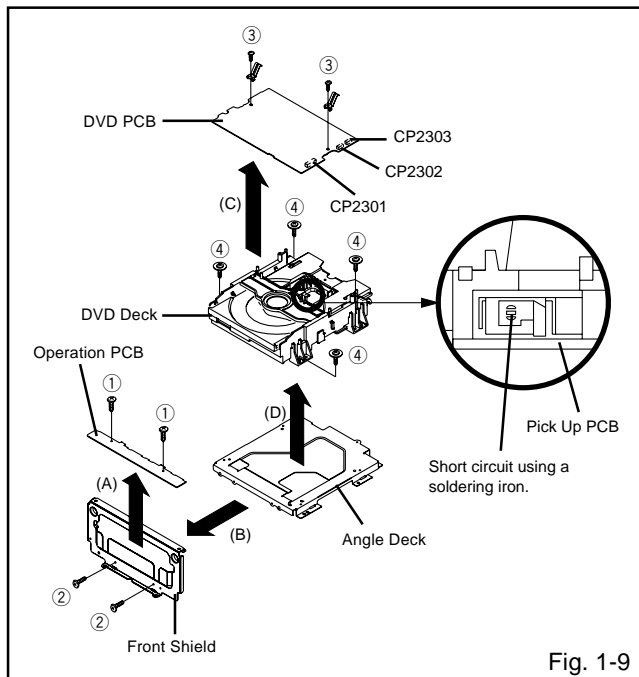

Fig. 1-9
## 1-9: OPERATION PCB/DVD PCB/DVD DECK (Refer to Fig. 1-9)
1. Short circuit the position shown in **Fig. 1-9** using a soldering iron. If you remove the DVD Deck with no soldering, the Laser may be damaged.
2. Remove the 2 screws ①.
3. Remove the Operation PCB in the direction of arrow (A).
4. Remove the 2 screws ②.
5. Remove the Front Shield in the direction of arrow (B).
7. Remove the 2 screws ③.
8. Remove the DVD PCB in the direction of arrow (C).
9. Remove the 4 screws ④.
10. Remove the DVD Deck in the direction of arrow (D).